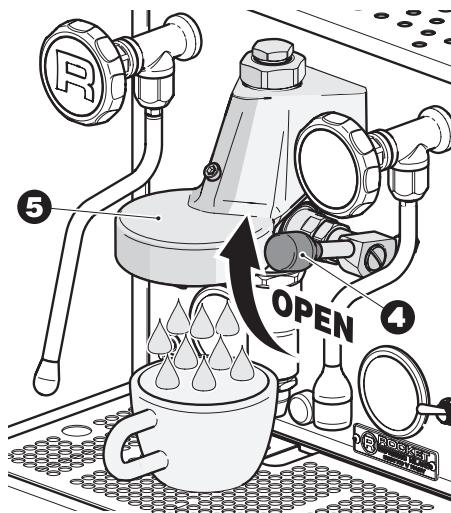

fig. 5.5
- Fully raise the coffee dispensing control lever (4 - fig. 5.5).